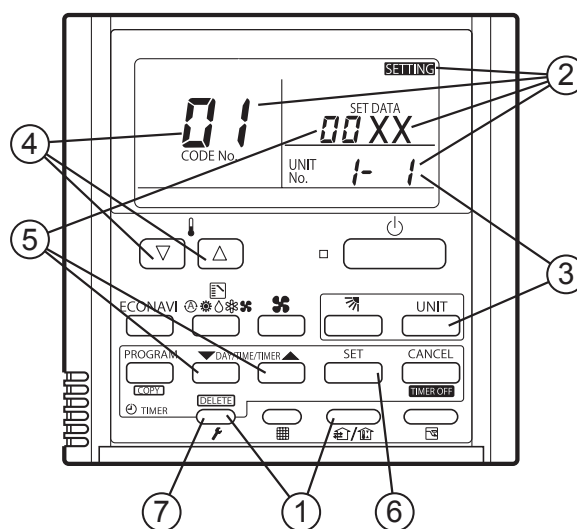

Fig. 7-1
- "**SETTING**", unit No. "**1- 1**" (or "**ALL**" in the case of group control), item code "**01**," and settings data "**00XX**" are displayed blinking on the remote controller LCD display (Fig. 7-1). At this time, the indoor unit fan (or all indoor unit fans in the case of group control) begins operating.